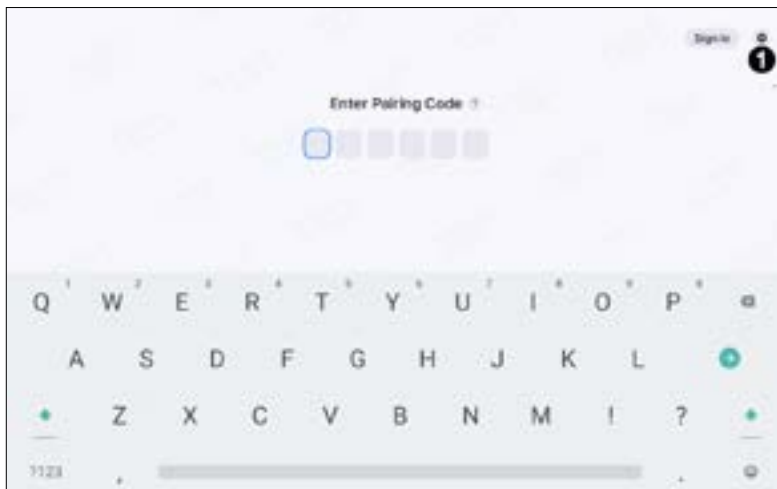

Figure 6. Click Settings Icon
- Click the **Settings** (gear) icon (see figure 6, **1**).